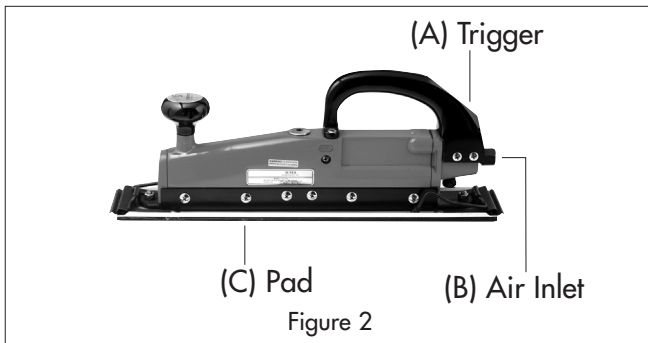

Figure 2
The air inlet (B) Figure 2, used for connecting air supply, has standard 1/4" NPT American Thread.
Lubricate the tool daily with a good grade of air tool oil. If no air line oiler is used, run a teaspoon of oil through the tool. The oil can be squirted into the tool air inlet (B) Figure 2, or into the hose at the nearest connection to the air supply, then run the tool. A rust inhibitive oil is acceptable for air tools.
The air inlet (B) Figure 2 used for connecting air supply has standard 1/4 NPT thread.